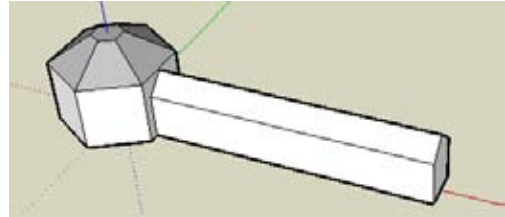

Figure 3-17
1. Start with a hexagonal gazebo with a sloped roof and add to one face a long cutting shape for the passageway (Figure 3-17). You can create your model from scratch, or download my Gazebo model from the 3D Warehouse.